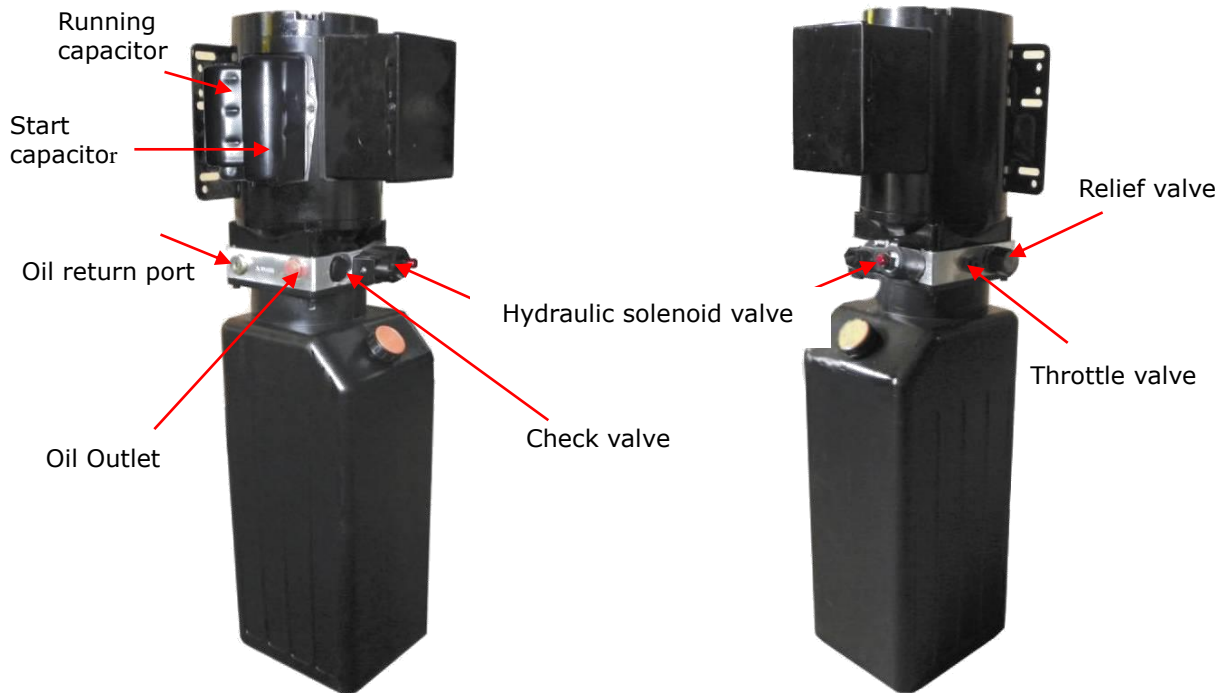

Fig. 26
b. INDYPRO Electric power unit, 220V/50HZ/1 phase (See Fig. 26)